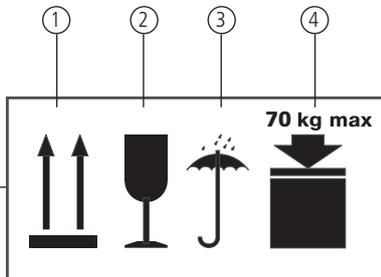

Figure 16
- handling symbols label for transport and storage of the delivery unit (Figure 16);